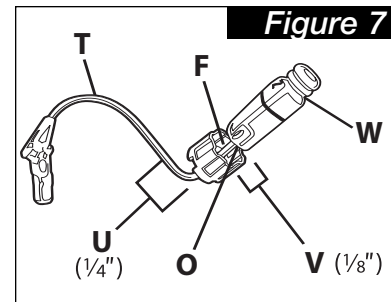

Figure 7
- Sparingly on the RIC-receiver wire (from the back of the RIC-receiver to 1/2 inch from the back of the RIC-receiver. (Fig. 7, T)
- Hold RIC-receiver wire in one hand, about 1/4 inch (6 mm) away from the back of the RIC-receiver and gently back the *Gruz Button™* off of the back of the RIC-receiver so that the open-end of the *Gruz Button™* (F) becomes accessible for you to gently squeeze a drop of *Gruz Button Adhesive™* into it. (Fig. 7, U)